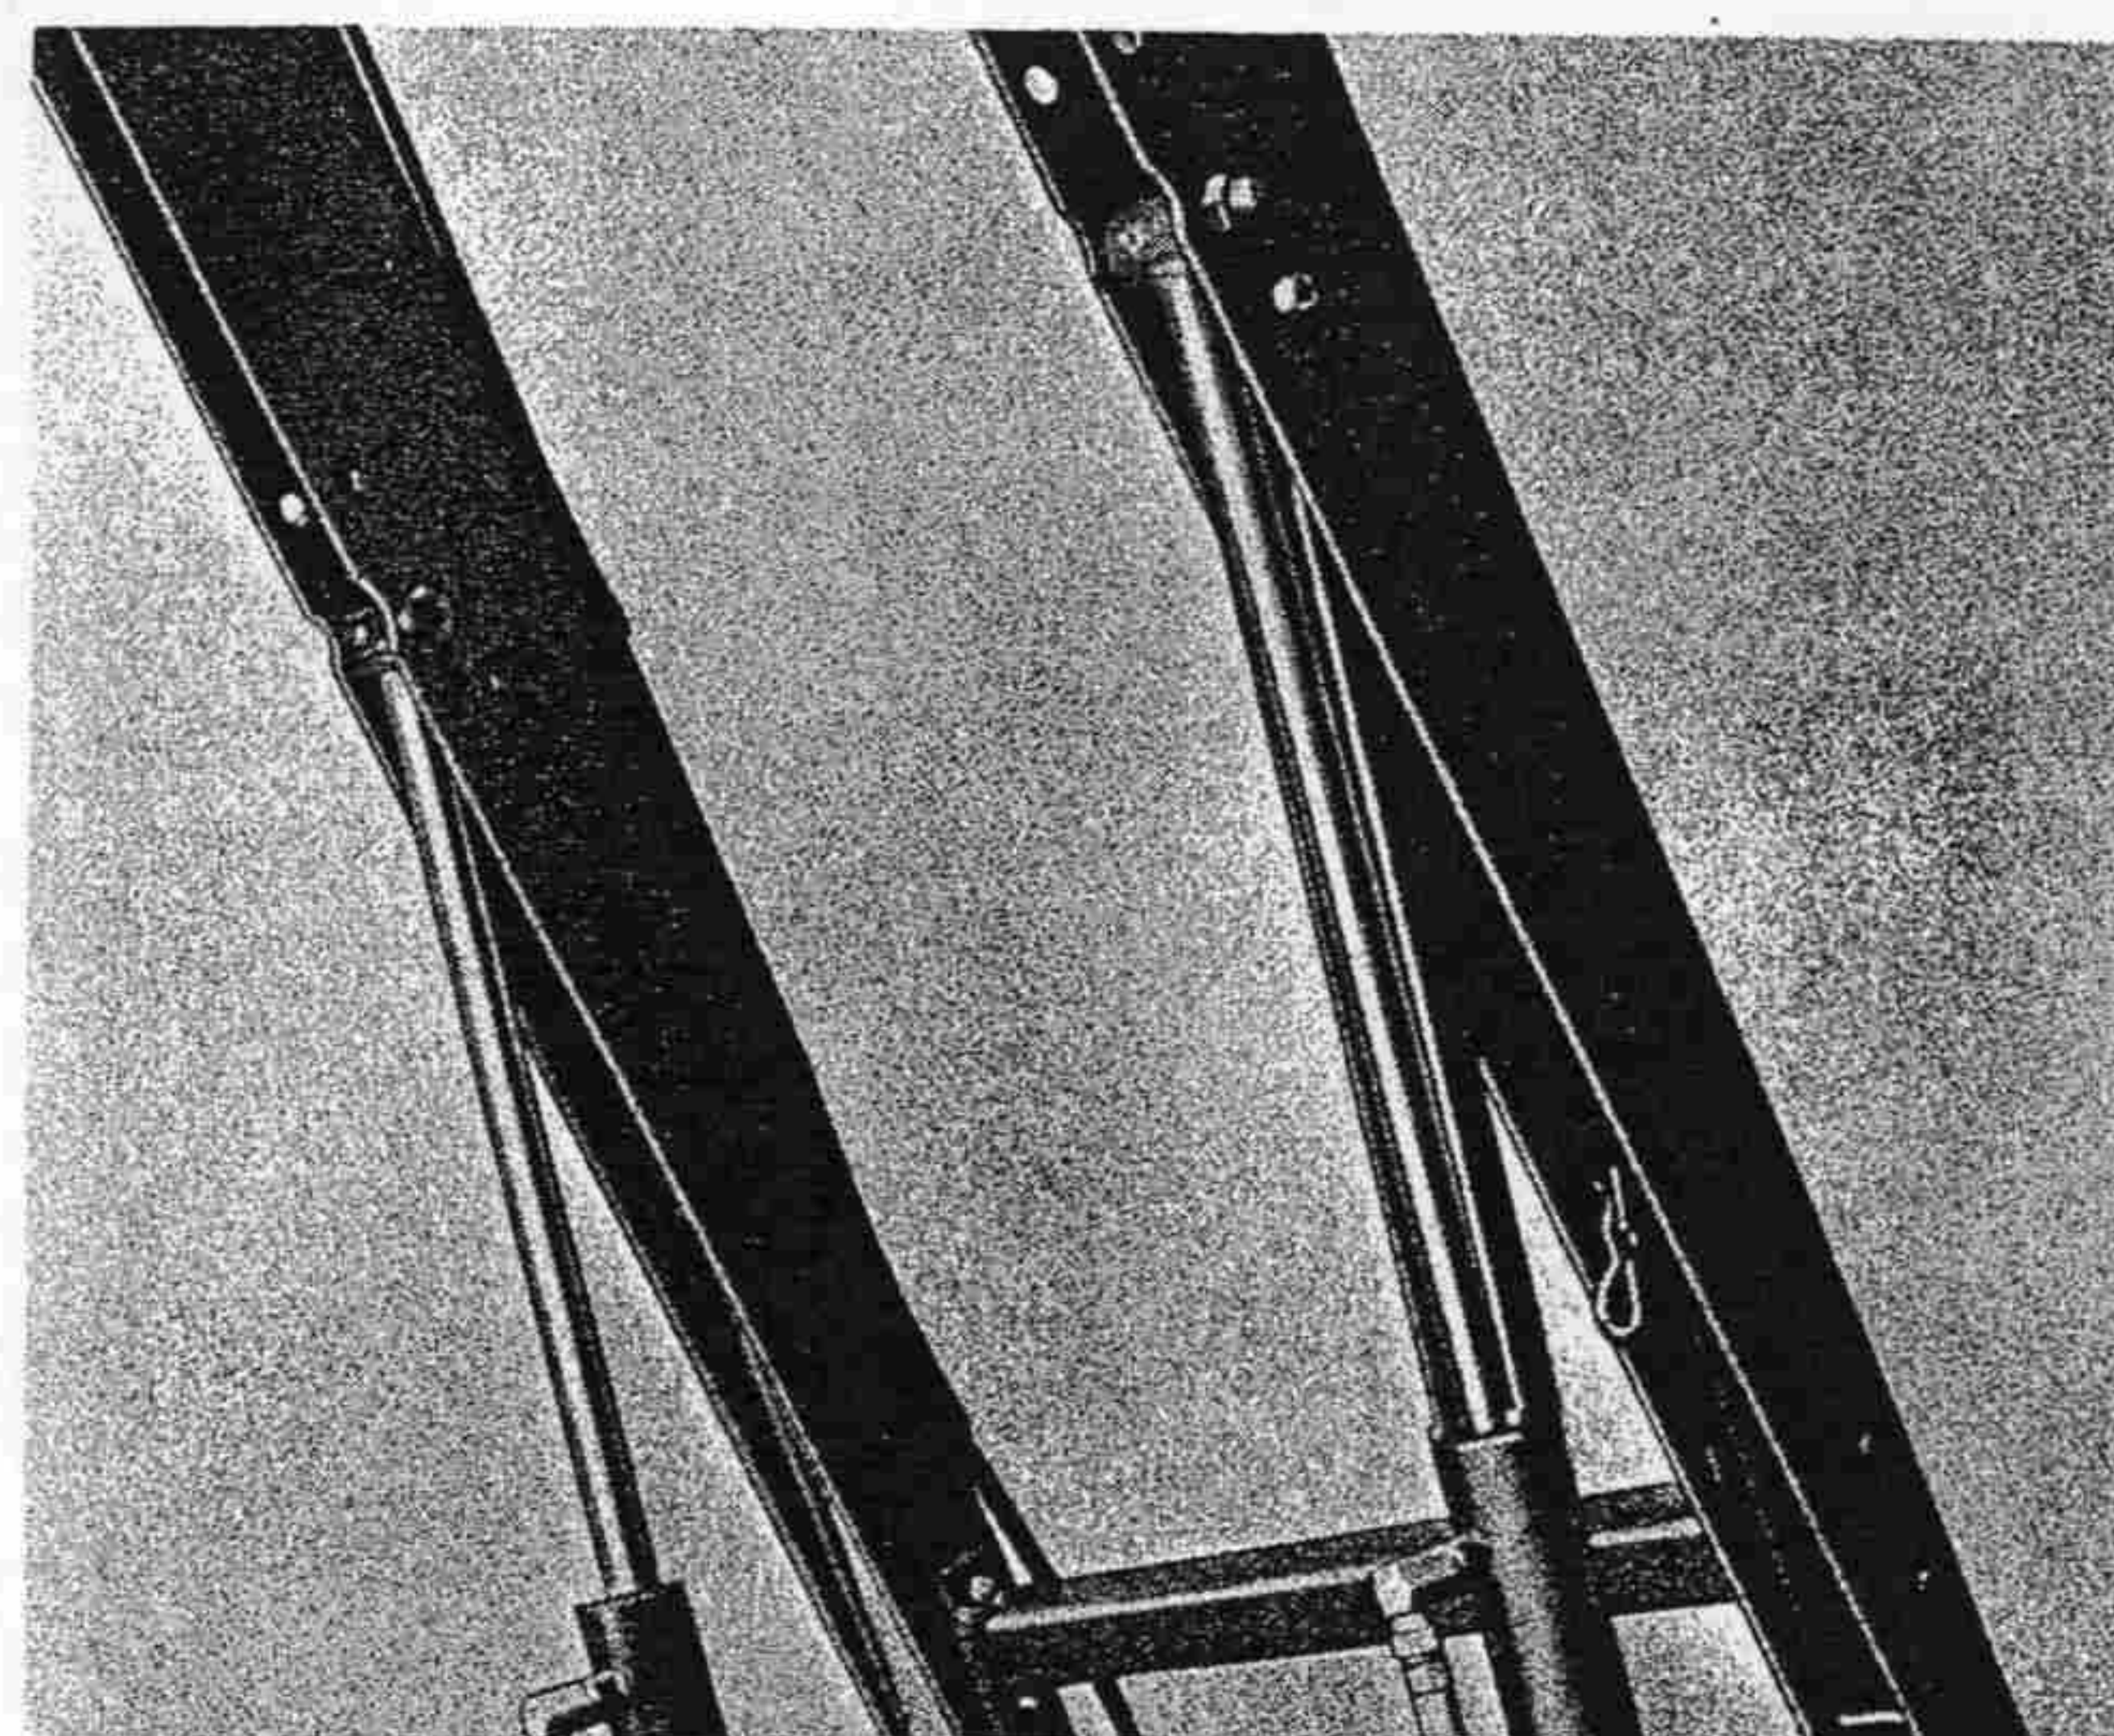

Fig. 4
4. Lower Lift Arms until contact is made with lower end of the Lift Arm Lock. (Fig. 4).